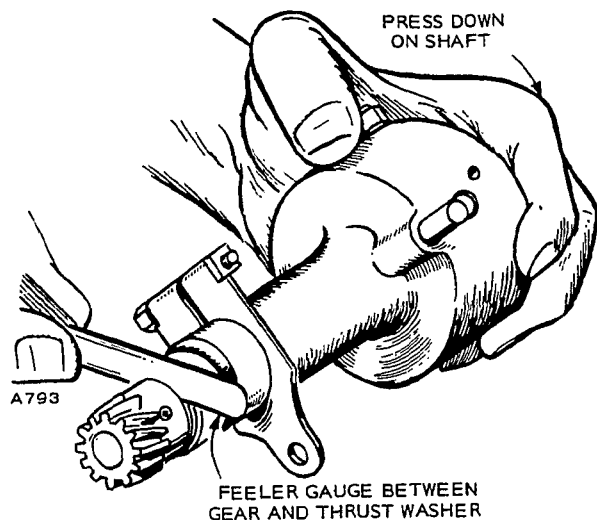

FIGURE 64. DISTRIBUTOR SHAFT END PLAY
3. Check drive shaft end play. It should be between .003 inch and .010 inch. If end play is too small, tap lower end of distributor drive shaft lightly with a soft hammer to increase play. If it is too great, check thrust washer installation or reinstall the gear (Figure 64).